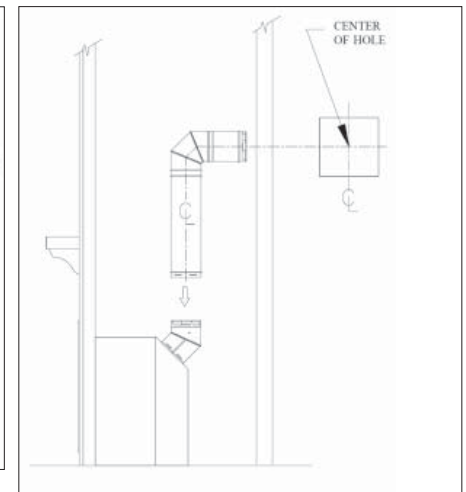

Figure 35: Horizontal Venting and Cut Away.
- Step 3.** With the adaptor and pipe attached to the fireplace, slide the fireplace into its correct location, and mark the wall for a square hole of the appropriate size. Use 11"x11" (280x280mm) square hole for 8" x 5" pipe. The center of the square hole should line up with the centerline of the horizontal pipe, as shown in Figure 35. Cut and frame the square hole in the exterior wall where the vent will be terminated. If the wall being penetrated is constructed of non-combustible material, i.e. masonry block or concrete, a hole with zero clearance to the pipe is acceptable.